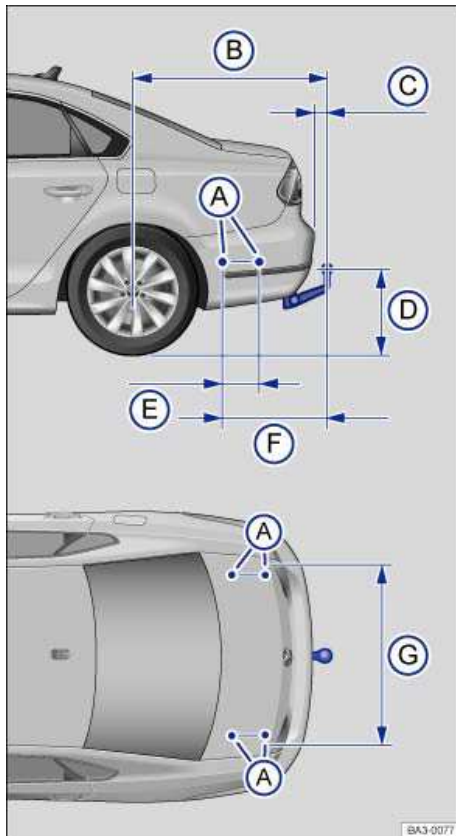

Fig. 121 Dimensions and attachment points for retrofitting a trailer hitch.
When retrofitting a trailer hitch, the specified distance dimensions must be strictly adhered to. Under no circumstances may the distance from the center of the ball to the surface of the road ⇒ fig. 121 (D) be less than the specified minimum. This minimum height must be present even when the vehicle is fully loaded and subject to the maximum tongue weight.
**Distance dimensions** ⇒ fig. 121:
- (A) Attachment points
- (B) 48 inches (1218 mm)
- (C) at least 2.8 inches (70 mm)
- (D) 14.2 inches (360 mm)
- (E) 13.1 inches (333.4 mm)
- (F) 27.8 inches (705.3 mm)
- (G) 41.3 inches (1048.2 mm)